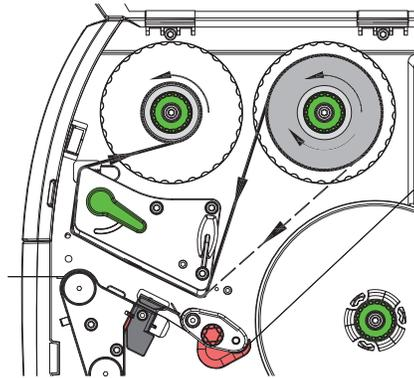

Figure 17: Transfer ribbon feed path
- 2 Turn lever (6) counterclockwise to lift the printhead.
- 3 Slide transfer ribbon roll (1) onto the ribbon supply hub (2) so that the color coating of the ribbon faces downward when being unwound.
- QL-30, QL-60, QL-30P, QL-60P - Slide the roll (3) until it stops.
- 5 Hold transfer ribbon roll (1) firmly and turn knob on ribbon supply hub (3) counterclockwise until the transfer ribbon roll is secured.
- 6 Slide suitable transfer ribbon core (4) onto the transfer ribbon take-up hub (5) and secure it in the same way.
- 7 Guide transfer ribbon through the print unit as shown in Figure 17.
- 8 Secure starting end of transfer ribbon to the transfer ribbon core (4) with adhesive tape. Ensure counterclockwise rotation direction of the transfer ribbon take-up hub here.
- 9 Turn transfer ribbon take-up hub (5) counterclockwise to smooth out the feed path of the transfer ribbon.
- 10 Turn lever (6) clockwise to lock the printhead.